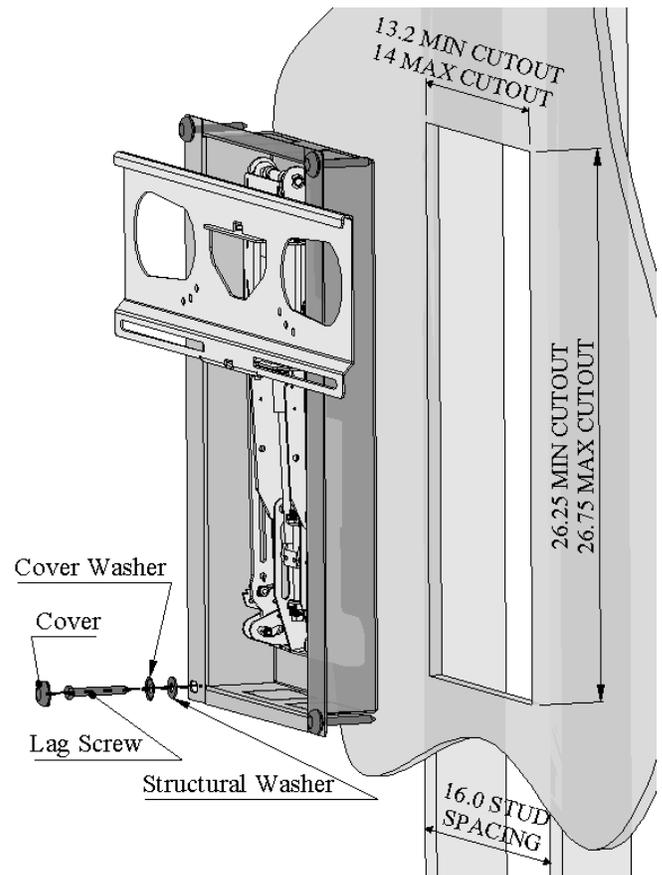

Figure 8, Attaching to Wall
1. Figure 7 and Figure 8 show how the mount gets laid out in the wall.
1. Once you know your location, draw a 26.25" tall x 13.2" wide rectangle centered horizontally on the TV as shown in Figure 8.
7. Figure 8 shows the correct order to put on the lag screw.